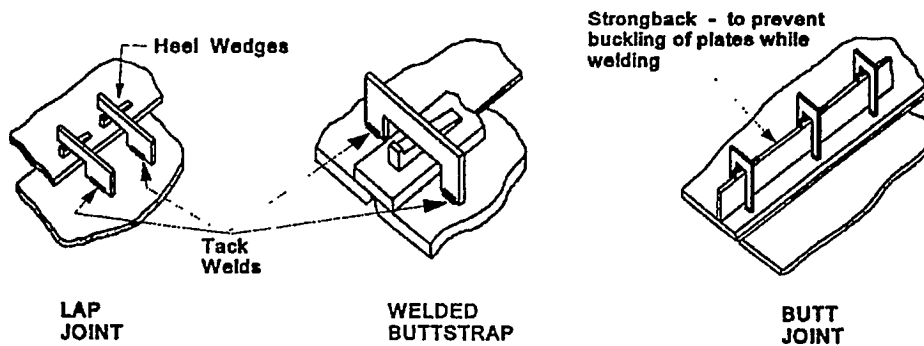

Figure 600-2.74. Methods of Securing Welded Structure
- a. Inspect the bulkhead for straightness. If the bulkhead is warped or twisted, straighten with a strongback. Use an angle or flat bar. If the bulkhead is bowed, make a cut in the plate. Use a strongback to flatten the bowed area, and reweld the cut. See figure 600-2.74.